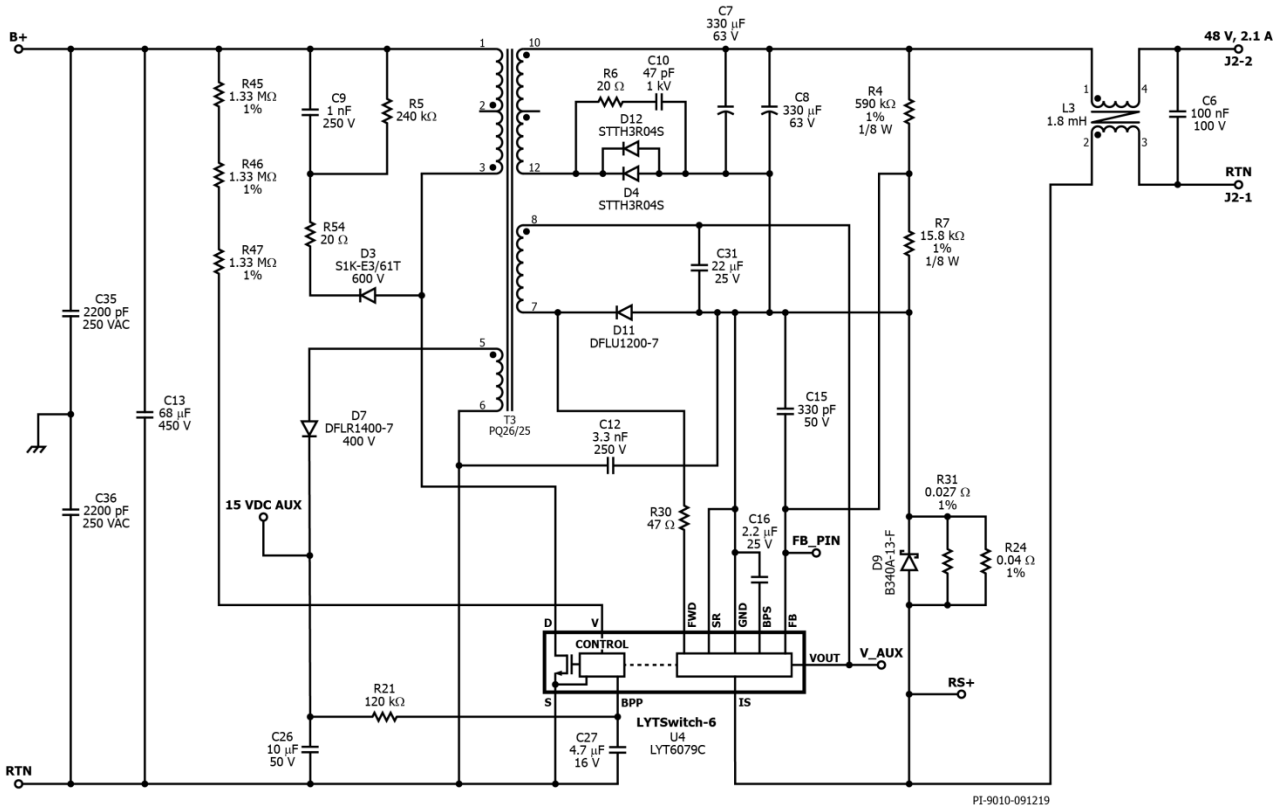

Figure 10 – Schematic, Power Section.
The 3-way dimming control circuit is shown in Figure 10. DIM+ and DIM- are input terminals for three ways of dimming the LED output. Through IS pin, output current from RTN terminal is sensed through R24 and R31 resistors. The voltage signal of these resistors is the input to the non-inverting amplifier U5B. The gain is set at around 261 through R37, R38, and R34 with resulting voltage of around 9 V at full-scale output current. The output of U5B is also the non-inverting input of U5A through R39. The inverting input (pin 2) is supplied with the dimming input type: (1) variable DC supply (0 V – 10 V), (2) variable resistance (0 Ω – 100 k Ω), or (3) variable duty PWM signal (0% – 100%, 100 kHz – 3 kHz).